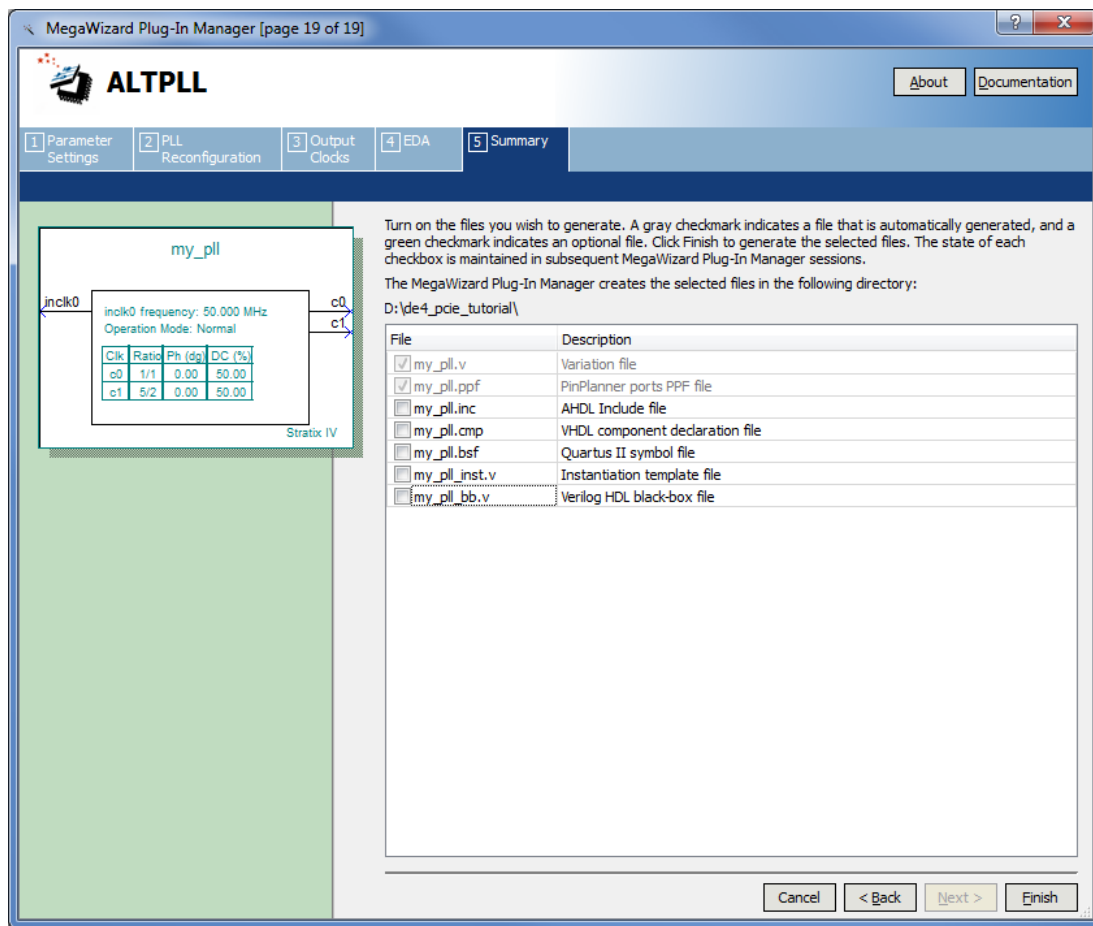

Figure 17. Settings for Summary tab.
8. Under the **Summary** tab, uncheck **my\_pll\_bb.v** as shown in Figure 17, and then click **Finish** to generate the file.